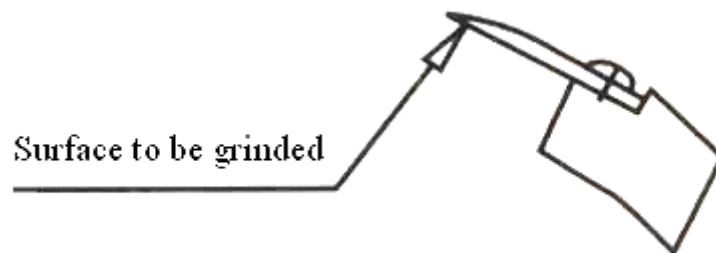

Fig. 11 Schematic diagram of grinding cross cutter
6.4.3.1 When the damage of cross cutter blade is slight, less than 2.5mm (If more than 2.5mm, the whole cutter should be replaced), grind the upper blade on the grinder or whetstone mechanically or manually. (Fig. 11)